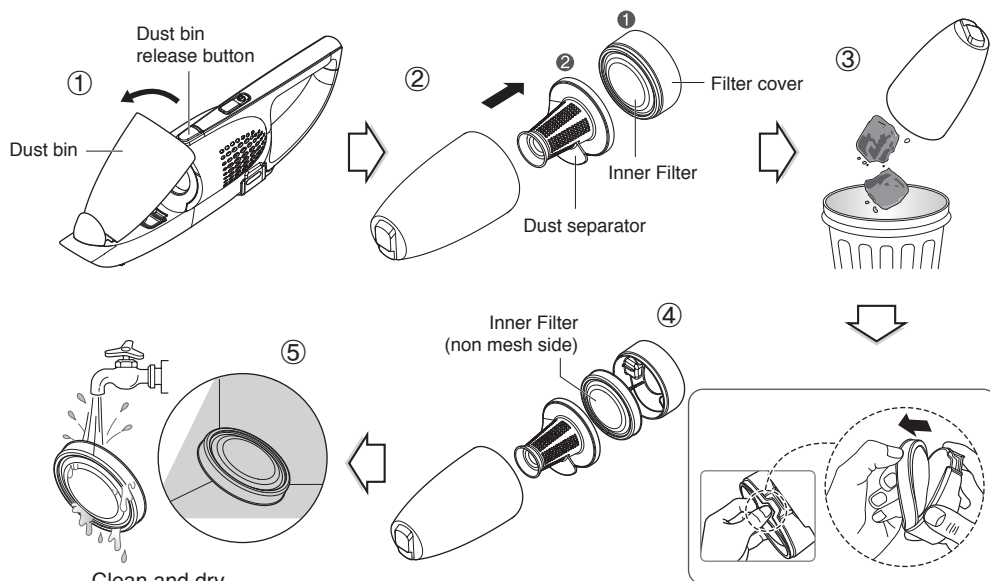

Fig.1
- ③ Empty the dust bin.
- ④ Separate the inner filter from the filter cover as shown in Fig.1.
- ⑤ Rinse the detached filter under water until the water runs clear and completely dry the filter in the shade.